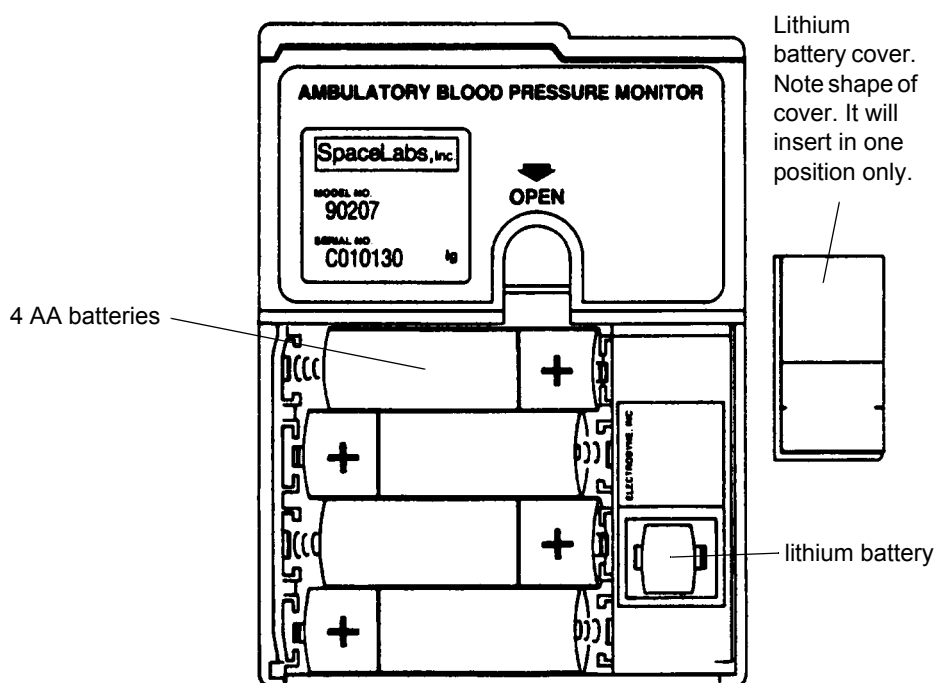

Figure 4-1: Battery compartment
- 3 If present, remove the old AA batteries from the monitor and replace each with a fresh alkaline (or fully charged nickel cadmium) battery, being careful to observe the voltage polarity (+ or -) as identified in *Figure 4-1*.